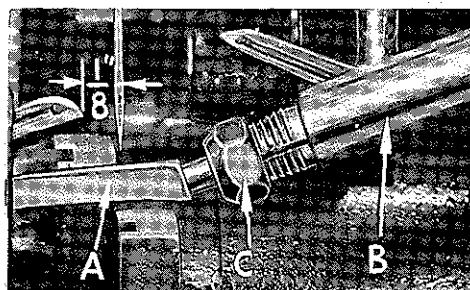

Fig. 6
At this point, insert lower looper (A, Fig. 6) into bar (B). With lower looper at left end of its stroke, set looper point $1/8$ inch from center of needle (Fig. 6), using looper gauge No. 21225- $1/8$. Do not have lower looper deflecting needle. Tighten nut.